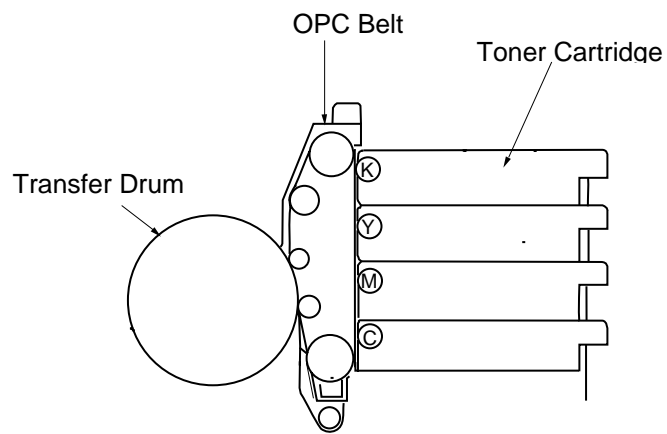

Fig.4-3
(2) Basic Color Printing Process
- The printer has a Toner Cartridge of each color yellow, magenta, cyan and black as shown in Fig.4-3.